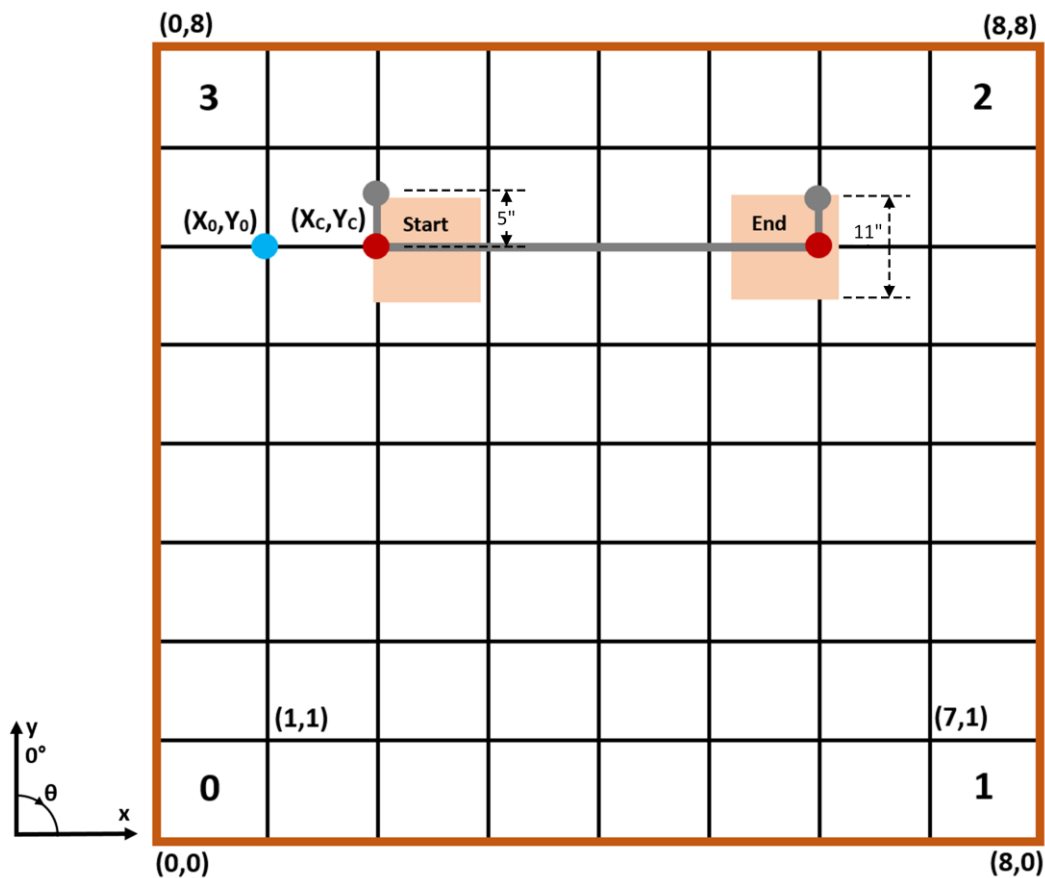

Figure 1. Zip line set up and (X,Y,θ) convention on the 8x8 grid. Measurements are in inches.
- You must follow the (X, Y, θ) convention specific in this lab (refer to **Figure 1**).
The zip line will be set up on an 8x8 grid as shown below in **Figure 1**.
The zip line is set up such that it aligns with the grid as shown in the two figures (aligned with the x-axis). At the start of the demo, a TA will provide you with the following parameters as labeled in **Figure 1**. Note that the (X, Y, θ) convention is fixed according to **Figure 1** in this lab.
2. Place the robot at (X_0, Y_0) as shown in **Figure 1**.
1. Place the robot at (X_0, Y_0) and orient at 0° as shown in **Figure 1**.
2. **Do we have to follow the (X,Y,θ) convention specified in Figure 1?**
Yes. Also note that the bottom-left corner of **Figure 1** is specified as $(0,0)$.